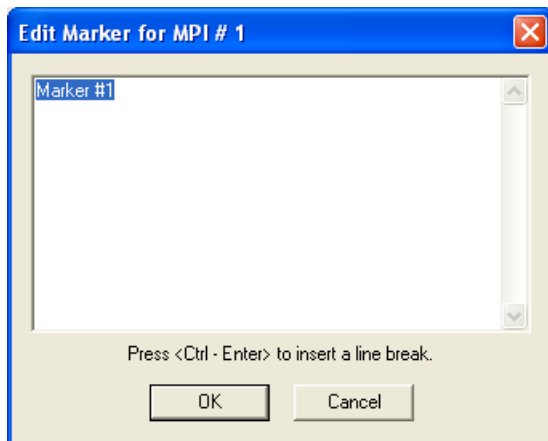

Figure 3.13 Edit Marker for Frame Dialog Box
Step 3 The **Edit Marker for Frame #** dialog box appears (Figure 3.13).
Step 2 To edit the marker comment, select **Edit Marker** to display the **Edit Marker for Frame #** comment window (Figure 3.13).